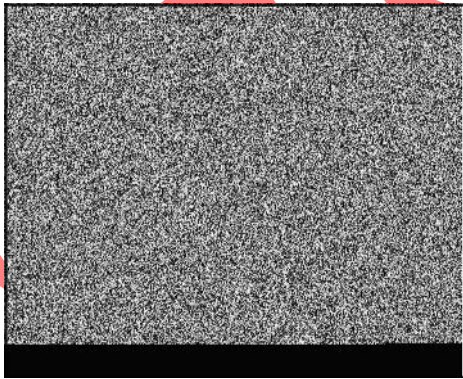

Figure 1
1. Disconnect breather hose (B, Figure 1) from air cleaner.
2. Remove rocker cover with breather hose (A) and gasket. Discard gasket.